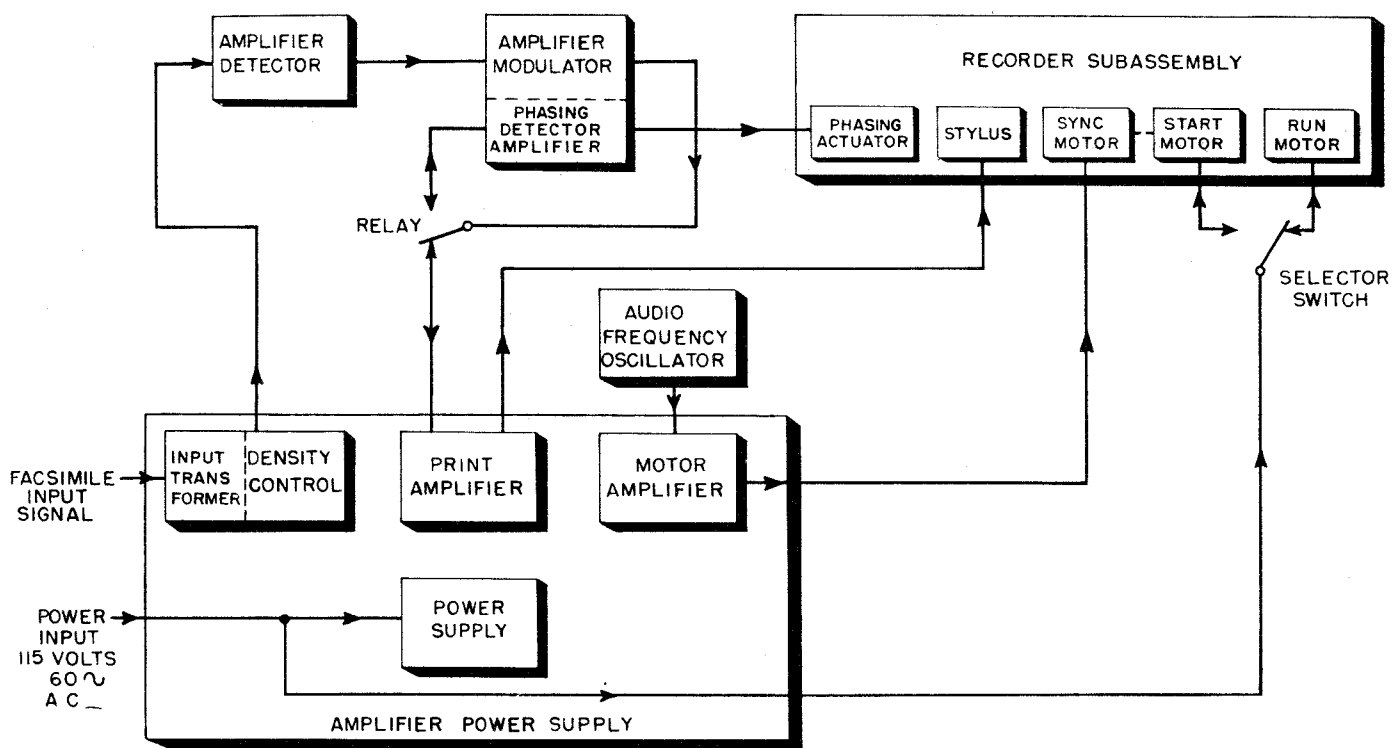

Figure 2-1. Simplified Block Diagram of Facsimile Recorder RD-92A/UX
The course of signal and power currents through the major circuits of the Facsimile Recorder RD-92A/UX is shown in the simplified block diagram of figure 2-1.
e. **AMPLIFIER-POWER SUPPLY.**—The amplifier-power supply, which serves as the basic chassis for the recorder, contains a low voltage and a high voltage power supply circuit, the motor driver and power amplifier, the print amplifier and the various metering and switching circuits. (See block diagrams, figures 2-1 and 2-2, the over-all schematic, figure 7-13, and the individual schematics for each circuit.)